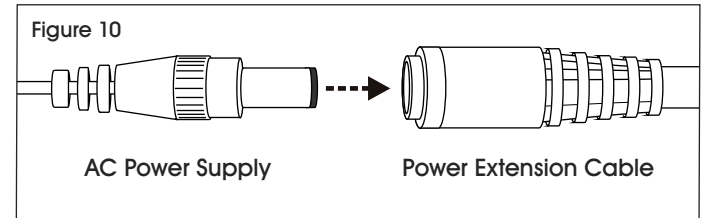

Figure 10
3. Attach 10' power extension cable if necessary. (See Figure 10)